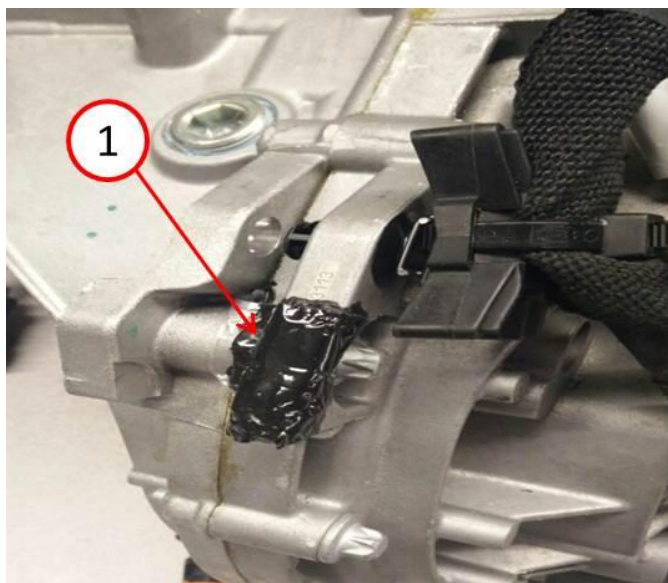
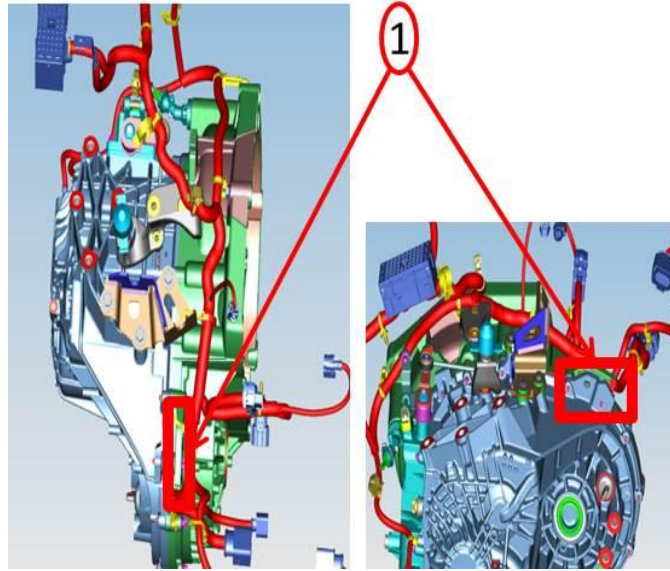

Fig. 6 Mastic
Fig. 7 Mastic Patch
- a. YES>>> Replace wire harness proceed to Step #4 and install mastic tape patch (Fig. 6) at the wear location (Fig. 7).
- b. NO>> Install mastic tape patch (Fig. 6) at the wear location (Fig. 7). Proceed to Step #24.